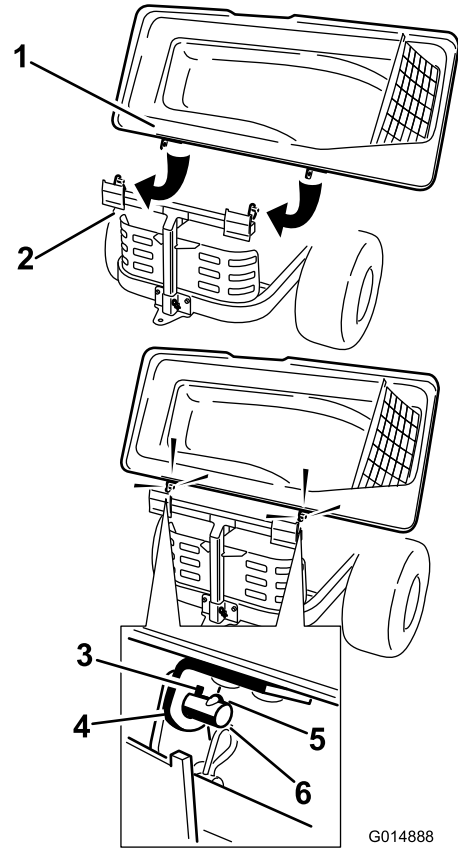

Figure 22
3. **For models 79390, 79391, and 79393 only:** rotate the bagger top to align the key holes in the bagger top brackets with the keys in the posts on the bagger frame (Figure 22).